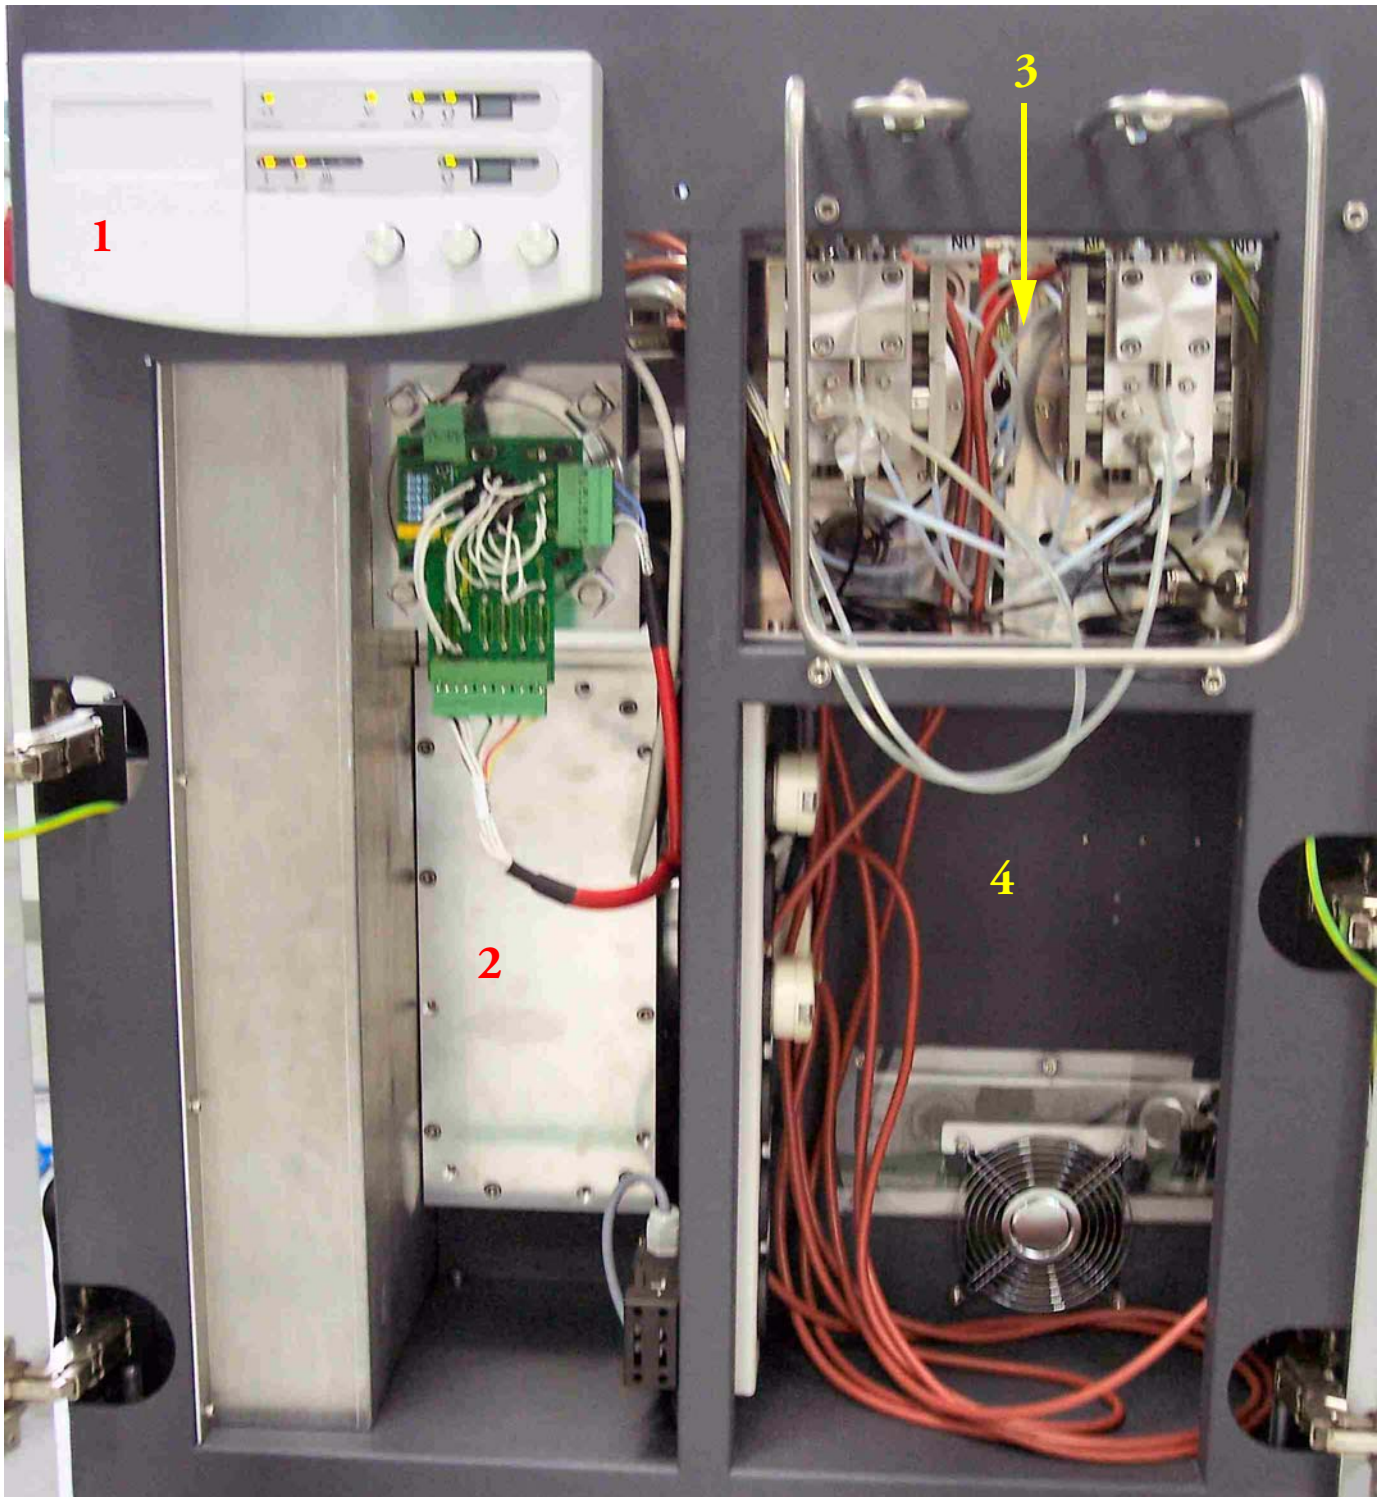
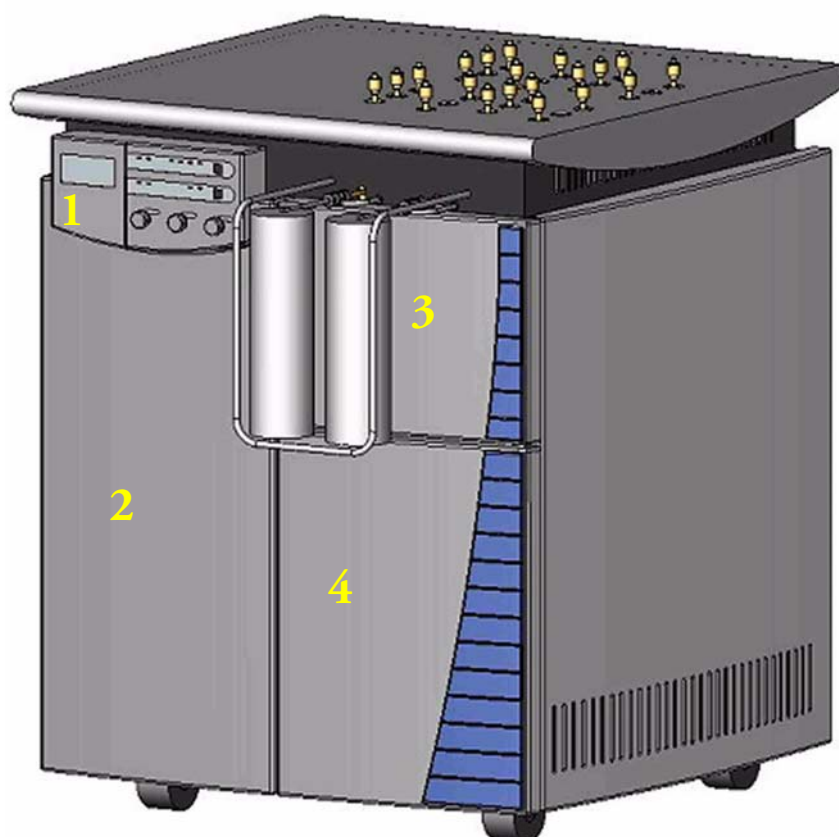

Figure 2-1. Cabinets at Front Side
Figure 2-2. DELTA V Advantage - Front Doors
* Refer to Figure 2-1.
At the front side, you can operate the Control Panel, **1** in Figure 2-1. Additionally, the front side allows access to three different cabinets shown as **2**, **3** and **4** in Figure 2-1. The three cabinets are located behind the three front doors shown in Figure 2-2. Table 2-1 gives an overview.
*Refer to Figure 2-1.
*Refer to Figure 2-2.